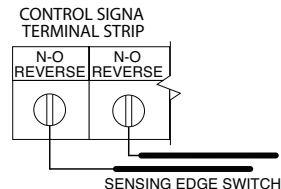

Figure 11
- 6) Connect to terminal strip using N-O Safety inputs. See **Fig. 11**.